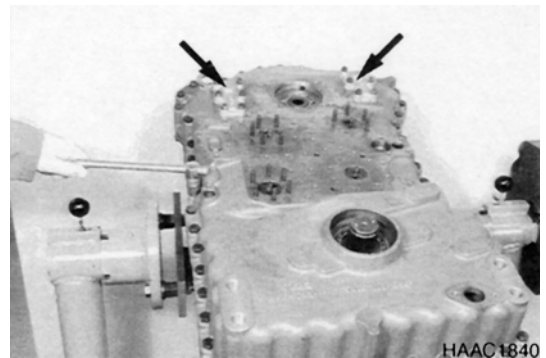

Figure 114
5. Loosen hex. nuts and remove the two covers (Figure 114).